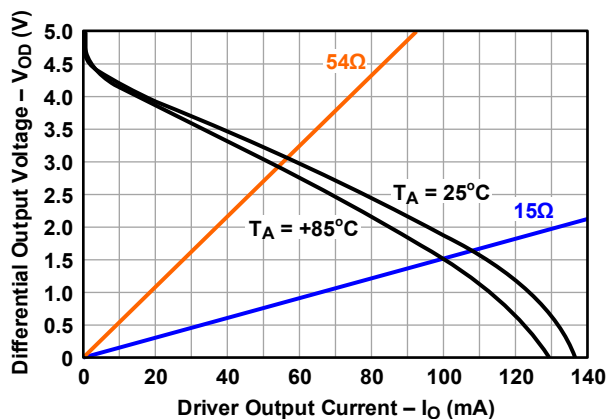

Figure 11. Driver Differential Output Voltage vs Output Current
17. See Figure 11 on page 14 for more information and for performance over temperature.